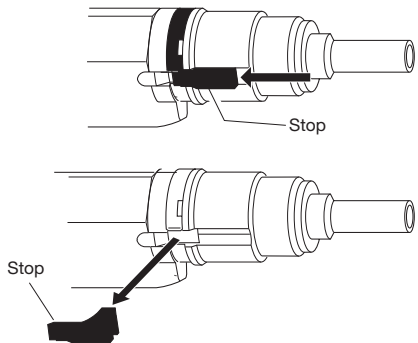

Figure 2 - Removing Stop
- Push stop towards rear of tool and remove (see Figure 2).